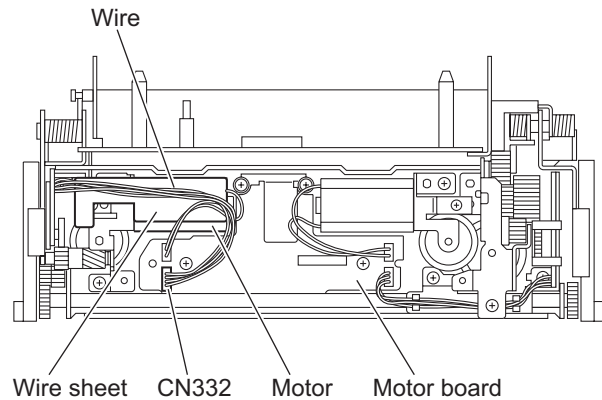

Fig.6
3.2.4 Removing the third gear, worm gear and double worm (See Figs.6 to 11)
- (1) Remove the wire sheet with the wire from the motor. (See Fig.6.)